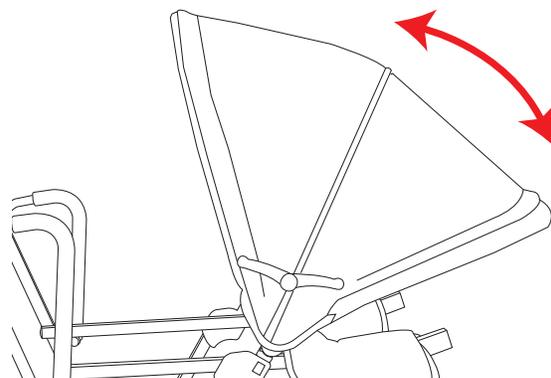

Figure 7
- The canopy will ratchet forward or backward to block the sun. Pull forward on the front of the canopy frame tube to rotate it forward. Pull backward on the rear frame tube to rotate it backward. See Figure 7.